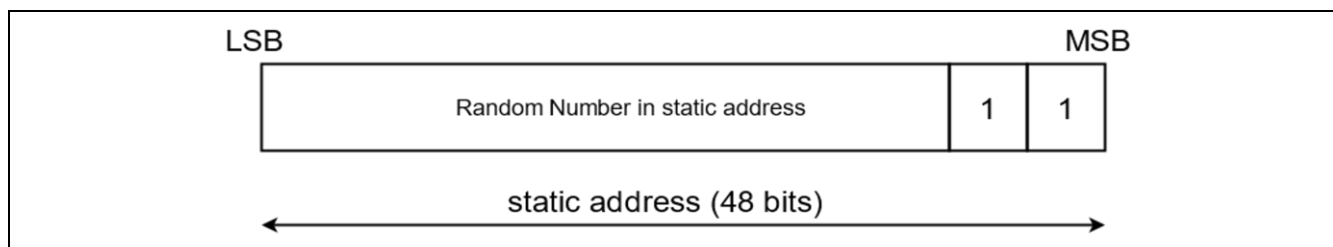

Figure 5.17. Static address format
Since Bluetooth LE Protocol Stack does not check format of BD address written in each area (1)-(3), when setting static address, set value that matches the format shown in Figure 5.17.